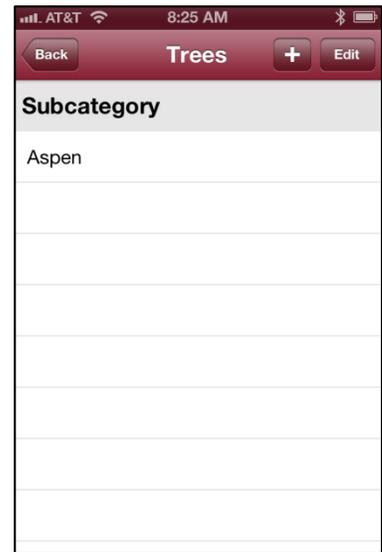

Figure 13
5. Tap "Add." Now "Aspen" is displayed in the Subcategory list under the category "Trees" (Figure 13).